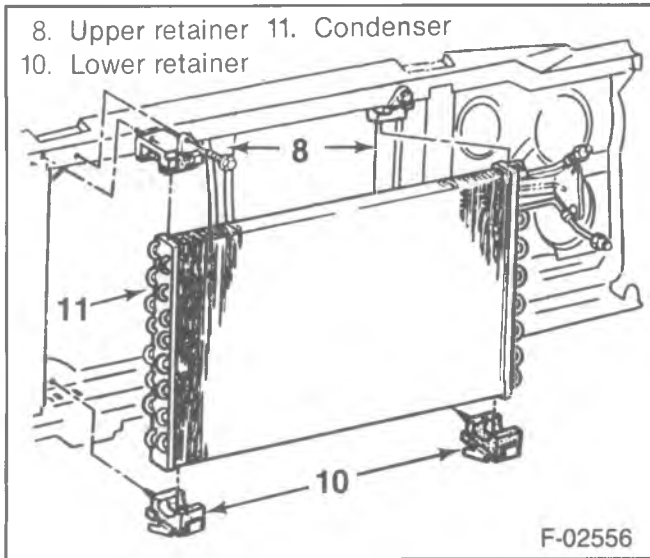

Figure 33—Condenser Replacement
7. Condenser to radiator support screws (figure 33).